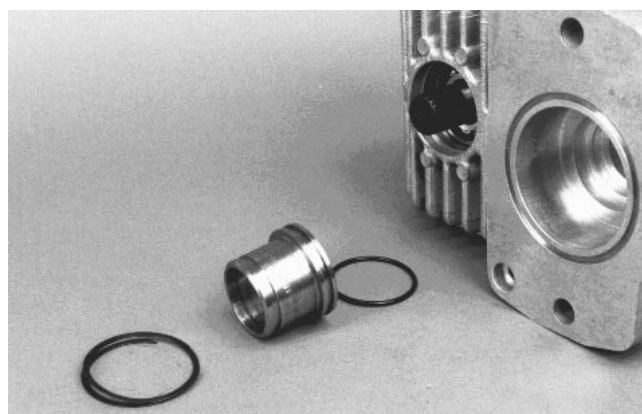

Figure 53
14. Remove spiral retaining ring and remove PTO seal guide (with o-ring) from the housing (Fig. 53).